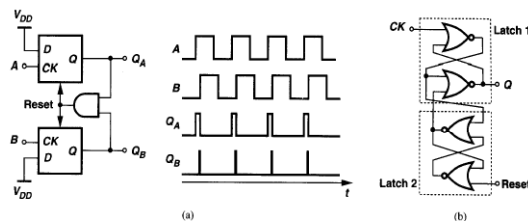

Figure 15.24 (a) Implementation of PFD, (b) implementation of D flipflop.
- $Q_A$  and  $Q_B$  are simultaneously high for a short ime but the difference between their outputs still represents phase of frequency difference correctly. (FF impl. In Fig. 15.24 b))